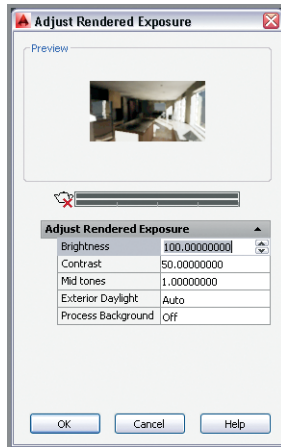

FIGURE 18.15
- Select the ribbon's Render tab, and expand its Render panel. Select the Adjust Exposure tool. After a few moments, AutoCAD creates a preview that gives you a rough sense of the level of illumination in a rendered thumbnail image. As it appears dark, change the Brightness from **65** to **100** and press Tab. The preview brightens significantly (see Figure 18.15). Click OK to close the Adjust Rendered Exposure dialog box.